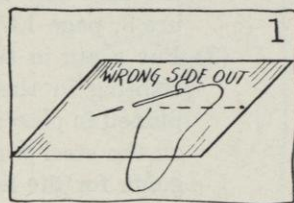

FIG. 1.
- (1) Measure the brim in the widest part (see point A in Figure 1 of Job 32, page 129).
- (2) Multiply by two.
- (3) Add a 3-inch allowance for stretching and sewing at headsize.
- (4) Jot down your answer.
- (1) Pin tape measure to the edgewire and draw it smooth on the edge of the brim until you reach the pinned end (see point B in Figure 1 of Job 32, page 129).
- (2) Subtract 1 inch from it, because a bias will stretch.
- (3) Jot down this last measurement.
- d. Put a basting as a guide along center of strip (lengthwise), keeping wrong side out (see Figure 1).
- e. Cut and join the steel wire, making it the size of edgewire, that was taken in Section 2 b (1) (page 136).
- (1) Slip the ends into a wire clasp so that they meet in the center (see Figure 1 of Job 20, page 83).
- (2) Press ends closed (see Figure 1 of Job 20, page 83).